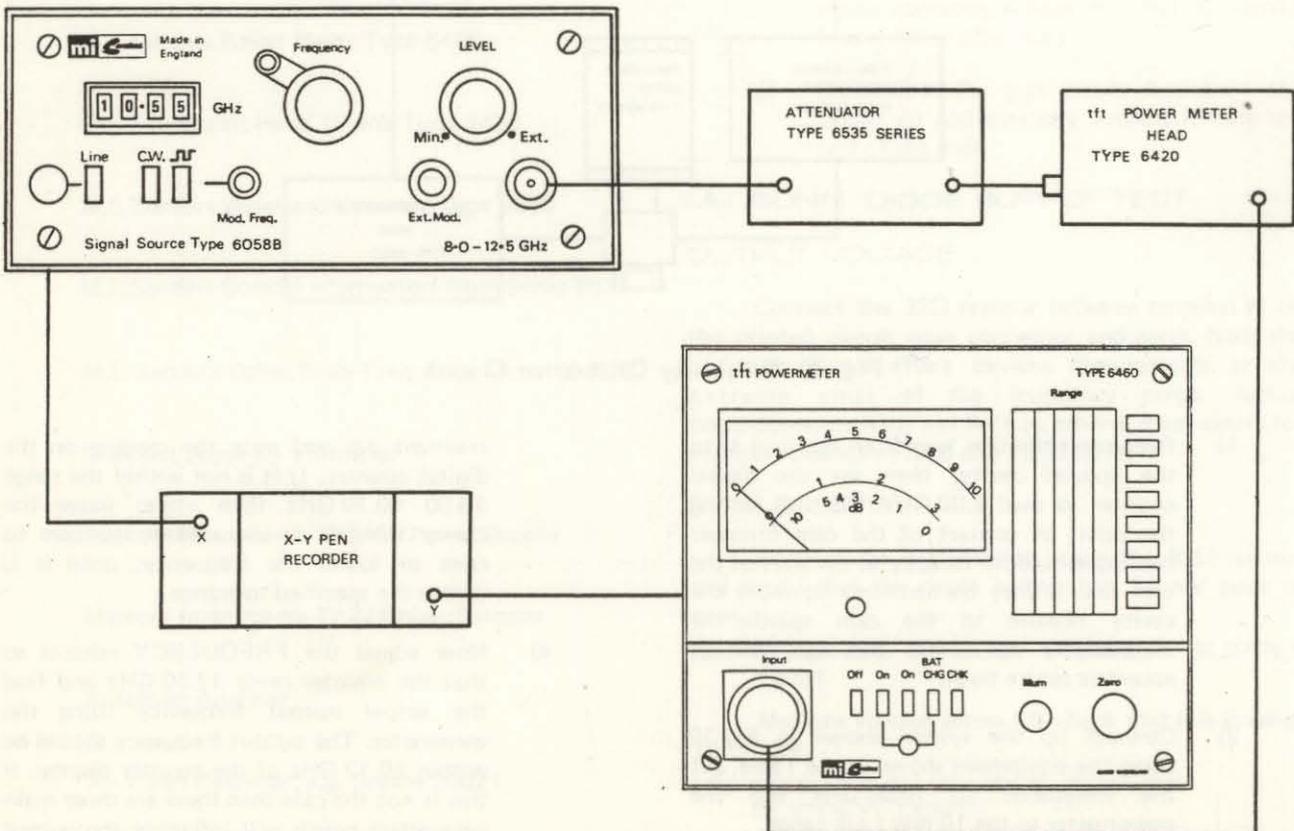

Fig. 11 Attenuation Calibration Circuit
With the system connected as shown in Fig.11:
- 1) With the system connected up as shown in Fig.11, check that the actual output frequency is within $\pm 1\%$ of the wavemeter reading at the following frequencies:
- 1) Using the system shown in Fig.11 with the pen recorder output of the Signal Source connected to the X-input of the pen recorder adjust the Y sensitivity to correspond to f.s.d. on the microwave powermeter.